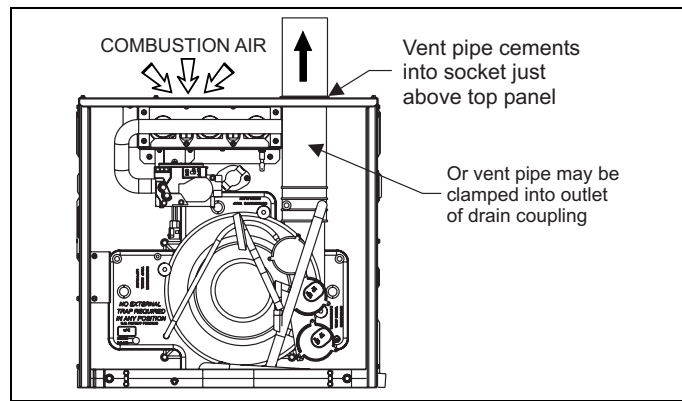

FIGURE 36: Combustion Airflow Path Through The Furnace Casing
1. **OUTDOOR COMBUSTION AIR:** This is a direct vent configuration where the combustion air is supplied through a PVC or ABS pipe that is connected to the PVC coupling attached to the furnace and is terminated in the same atmospheric zone as the vent. This type of installation is approved on all models. Refer to Figure 36.
2. **AMBIENT COMBUSTION AIR:** Combustion air is supplied from the area surrounding the furnace through openings in the furnace casing. The combustion air and the vent pipes are not terminated in the same atmospheric zone. Refer to Figure 21 for vent terminations. Refer to "Ambient Combustion Air Supply" for proper installation. Refer to Figure 36.